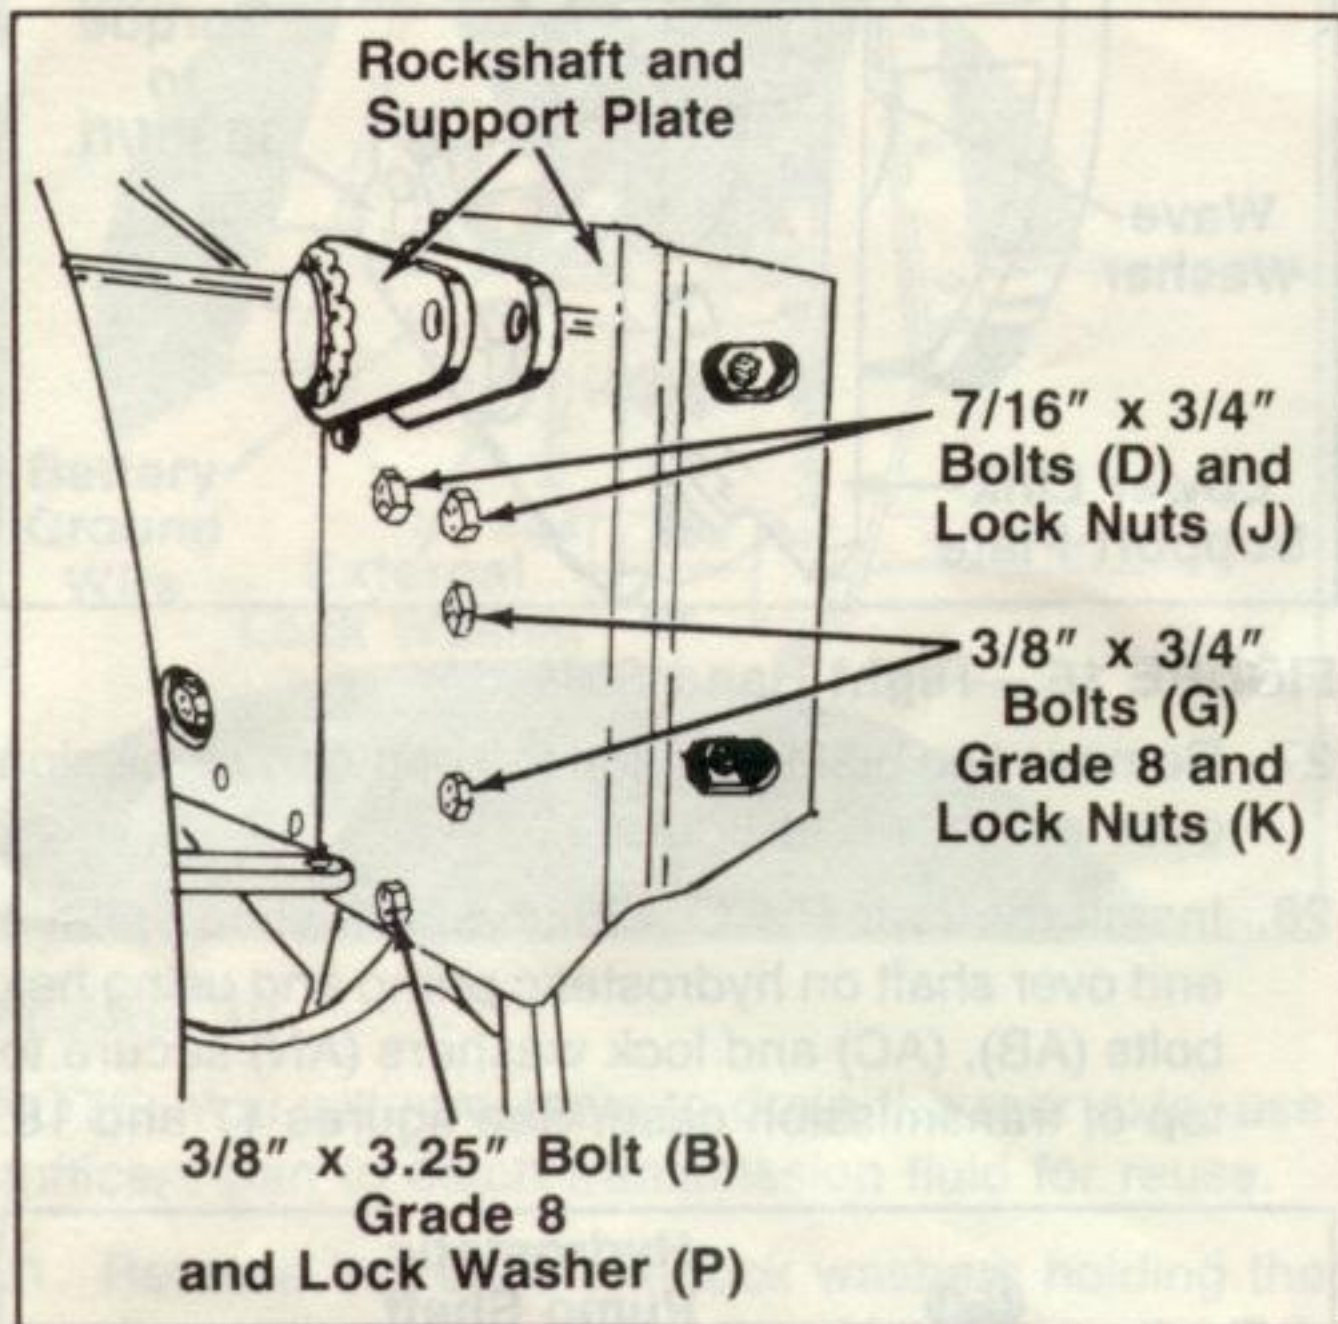

FIGURE 19.—Left Hand Side
29. Install the rockshaft and support plates to rear chassis by first removing one bolt (each side of chassis to transaxle horn). Assemble with hardware provided as shown in figure 19 and 20.